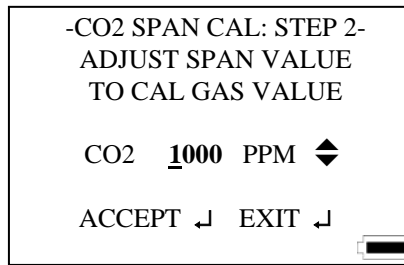

Figure 4-7: CO₂ Span Calibration: Step 2 Screen
- Adjust the span value of the calibration gas being used by pressing \blacktriangleleft , or \blacktriangleright keys to move the cursor to the required field, and either the \blacktriangle or \blacktriangledown keys to increment or decrement the value. Press \downarrow to accept the calibration gas (Figure 4-7).